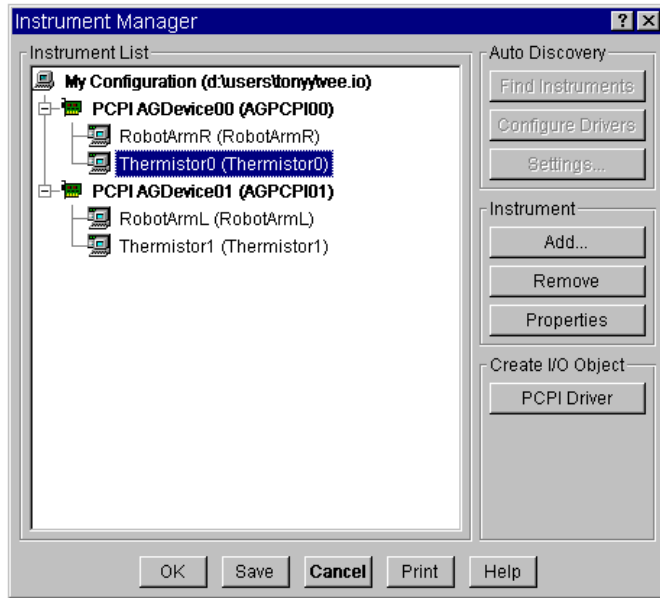

Figure 3-23. ODAS Driver Entries in Instrument Manager
1. Select `I/O` ⇒ `Instrument Manager`... Select `Find Instruments`. The `Instrument Manager` displays entries similar to those shown in Figure 3-23.